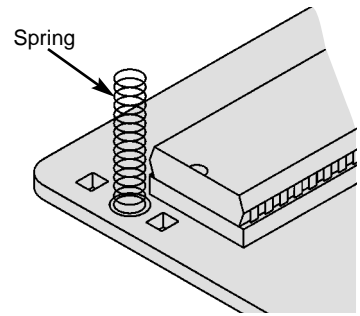

Figure 4-3
- Solder the 1/2 inch spring to the PC board as shown in Figure 4-3. This spring will contact the metal shield on the case bottom when the bottom is installed.